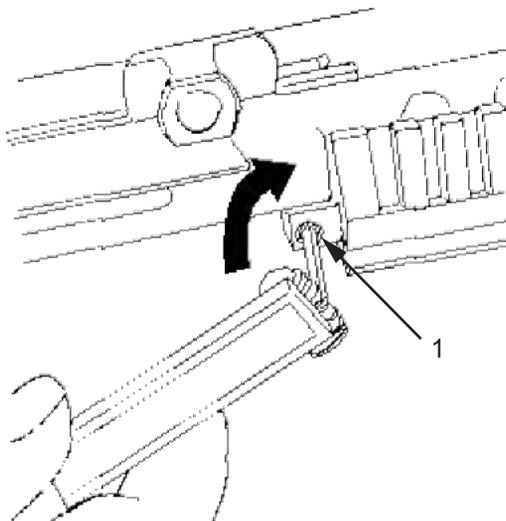

Figure 8. Rail Adapter Screw Installation.
3. Using a 9/64 hex key wrench, install the two new screws (one at each end of the rail adapter) (Figure 8, Item 1) from the right side of the rail adapter and tighten snug. Do not over tighten.